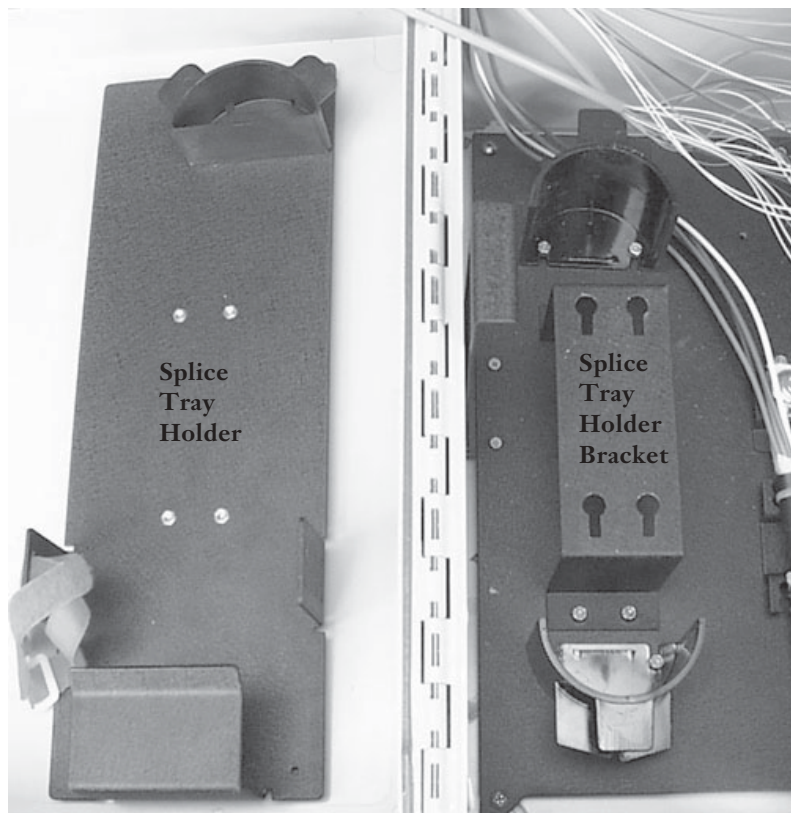

Figure 13
**10.3** Remove the splice tray holder from the housing (Figure 13).